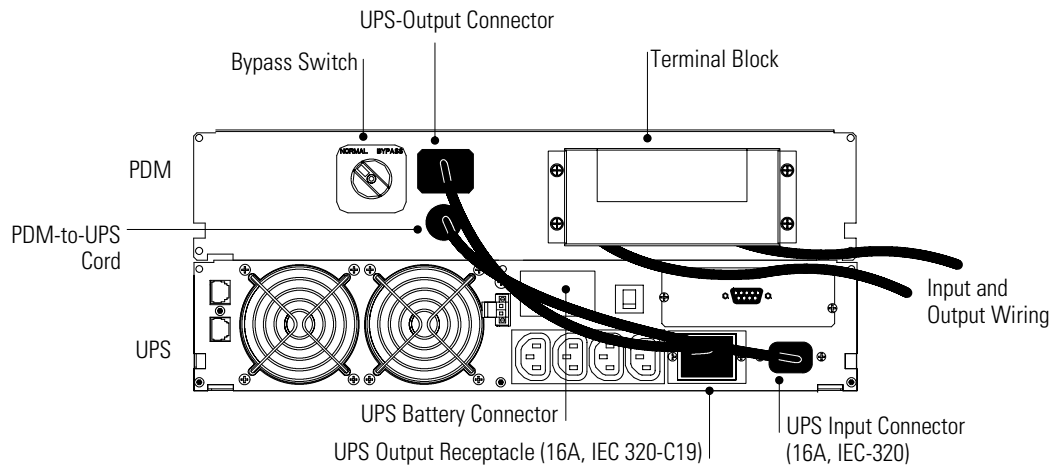
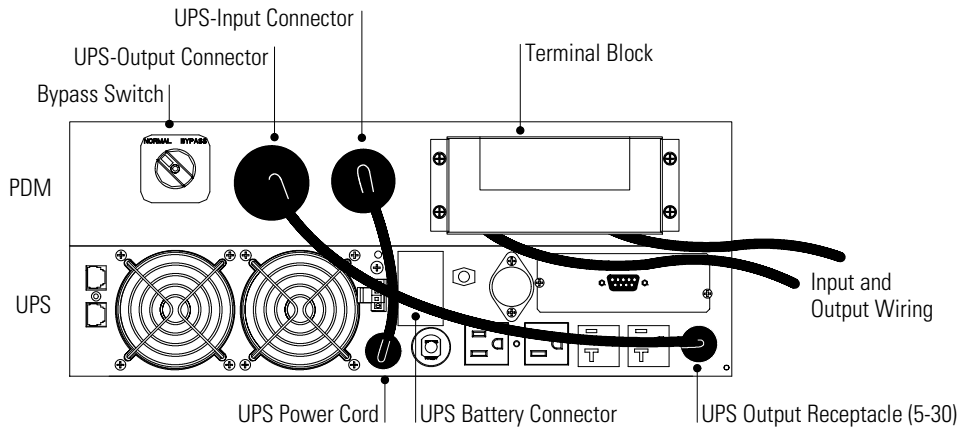

Figure 16. Typical High-Voltage Hardwired Installation (PDM2-HV-US-HW Shown)
Figure 17. Typical Low-Voltage Hardwired Installation
2. Verify that the Bypass switch on the PDM is in the NORMAL position (see Figure 16 or Figure 17).
3. **PDM1-HV-US-HW and PDM2-HV-US-HW:** Connect the short jumper cable (provided in the accessory kit) from the 16A UPS output receptacle into the UPS-output connector on the PDM. See Figure 16.